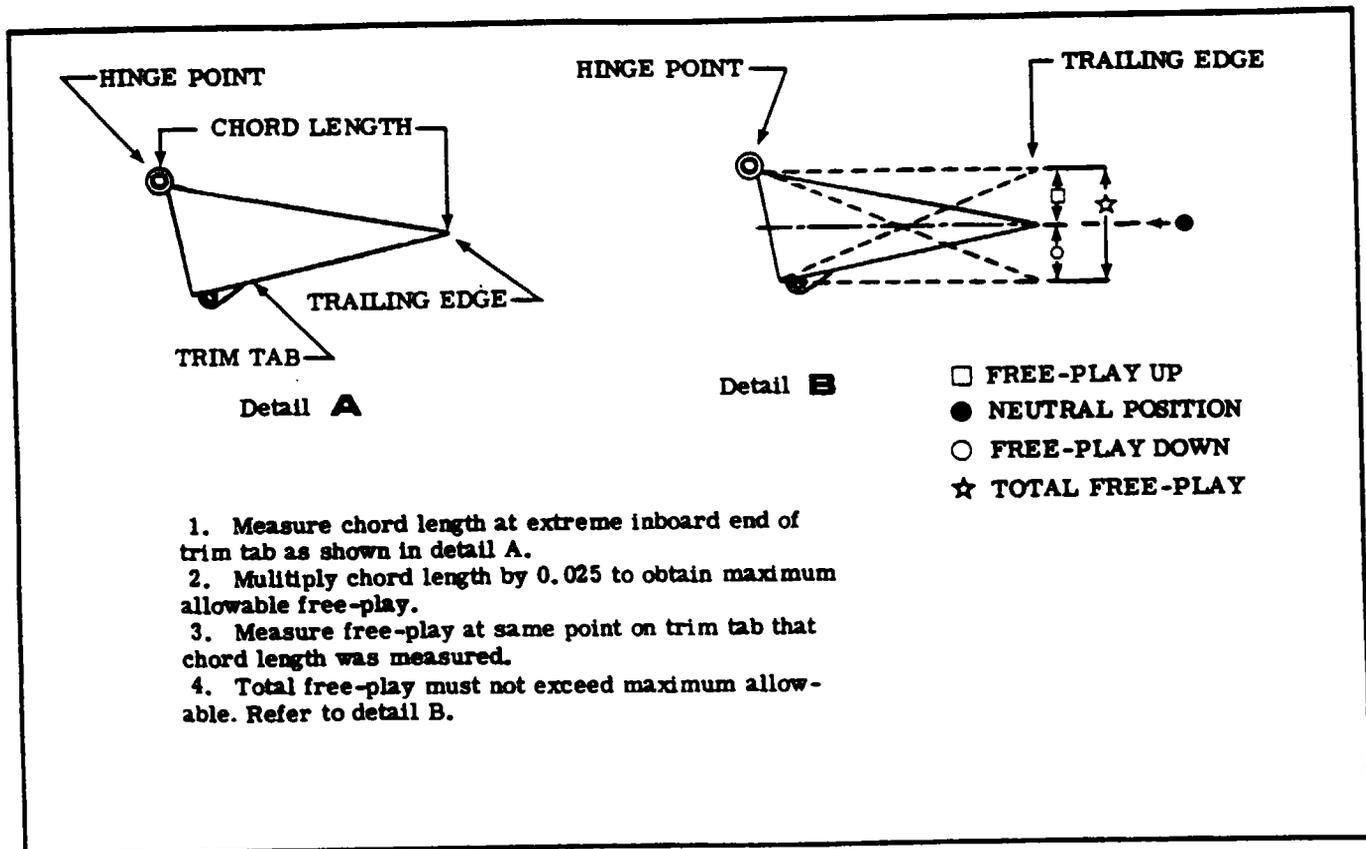

Figure 9-6. Trim Tab Free-Play Inspection
4. Disconnect cable ends (10).
5. Remove travel stop blocks (13).
6. Disconnect electric trim clamps and keepers (indexes 15 and 16, figure 9-6), if installed.
7. Remove access plate beneath trim tab actuator (21) and remove chain guard (19).
1. Measure chord length of extreme inboard end of the trim tab as shown in detail A, figure 9-6.
Measure free-play at the same point on trim tab that chord length was measured. Total free-play must not exceed maximum allowable. Refer to detail B, Figure 9-6.
9-19. REMOVAL AND INSTALLATION. (Refer to figure 9-6.)